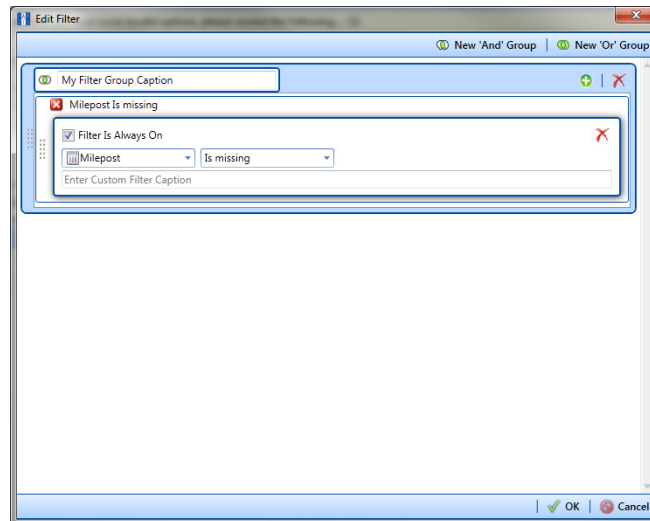

Figure 10-45. New 'And' Filter Group
- a Click  **New 'And' Group** to open the filter properties group box (Figure 10-45).